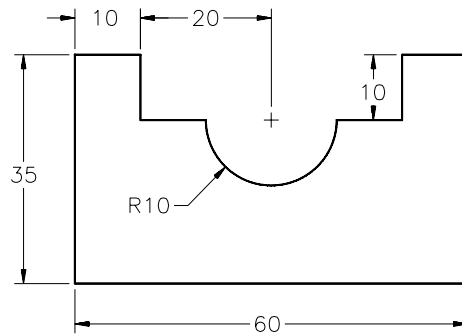
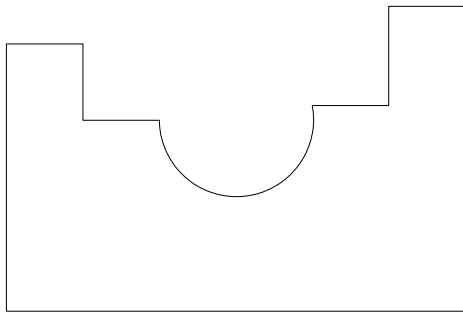
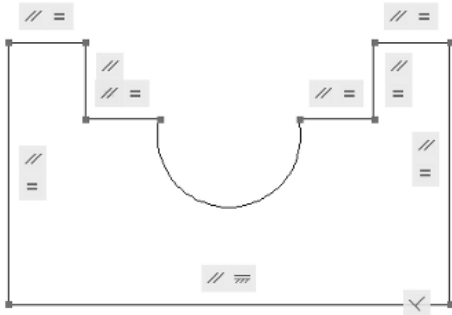

Figure 11-27 Sketch for Example 2
Figure 11-28 Closed sketch drawn
Figure 11-30 Sketch after applying the equal constraint
In this example, you will draw the sketch shown in Figure 11-27 and then, apply the geometric and dimensional constraints to it.
1. Start a new file with the *acad.dwt* template in the **2D Drafting & Annotation** workspace and draw the outer profile with dimensions close to that given in Figure 11-27. Make sure that the endpoints are snapped so that they form a closed sketch, as shown in Figure 11-28.
5. Now, you need to apply the equal constraint. To do so, choose the **Equal** button from the **Geometric** panel in the **Parametric** tab and apply the equal constraint between the lines that are supposed to have equal dimensions. For dimensions, refer to Figure 11-27. The equal constraints need to be applied to the two pairs of horizontal and two pairs of vertical lines in the sketch. The sketch after applying the equal constraint is shown in Figure 11-30.
3. Similarly, apply the dimension to the horizontal and vertical lines (refer to Figure 11-27) and change the value to **10**.
Now, you need to apply the dimension between the center of the arc and the vertical line on the left, as shown in Figure 11-27.